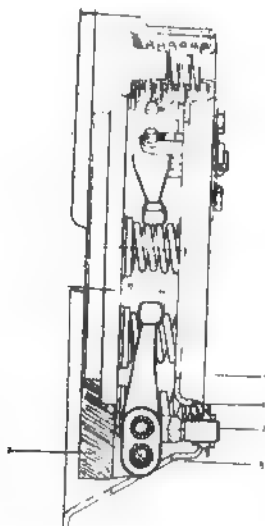

Fig. 4. 93. ASSEMBLED CLUTCH
- Refitt adjusting screws on the three release levers and adjust them so that the distance between the top of screws and the clutch cover mounting surface on the flywheel reaches 54 mm (see Fig. 4. 93).